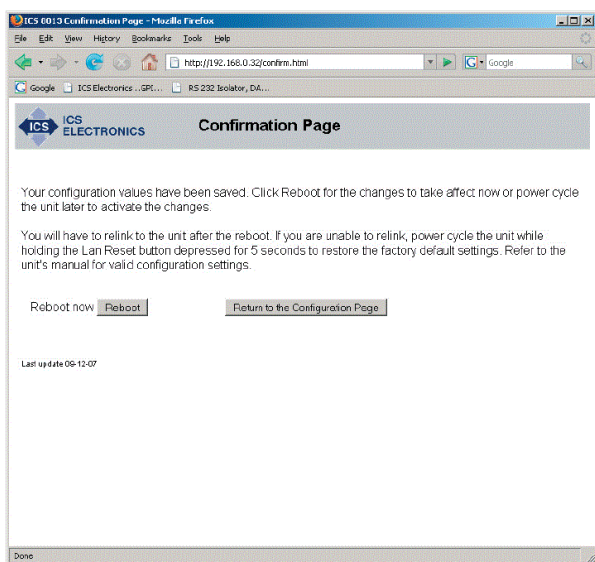

Figure 4-5 8003 Confirmation Page
7. Enter the new settings as desired. If you select DHCP for the TCP/IP Mode, the page blanks out the IP, Net and Gateway addresses as they will be supplied by your DHCP server. Check the entered values carefully as the unit’s webserver does minimal error checking. Press the ‘Update Flash’ button when done. A Confirmation Page similar to the one shown in Figure 4-5 will appear in your browser.